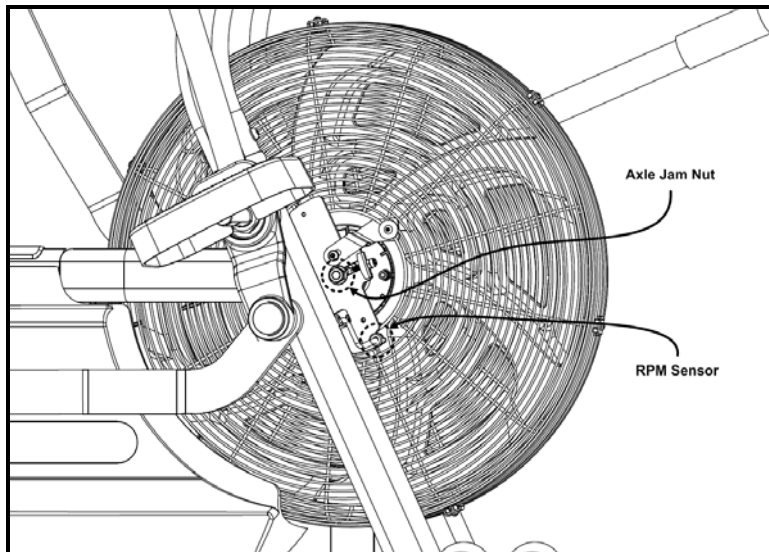

Fig. 11
13. Loosen the axle jam nut on the left & right sides of the fan to relieve stress on the axle alignment eyebolt (Fig. 11) and dislodge the RPM sensor from the wedge channel of the axle bracket.